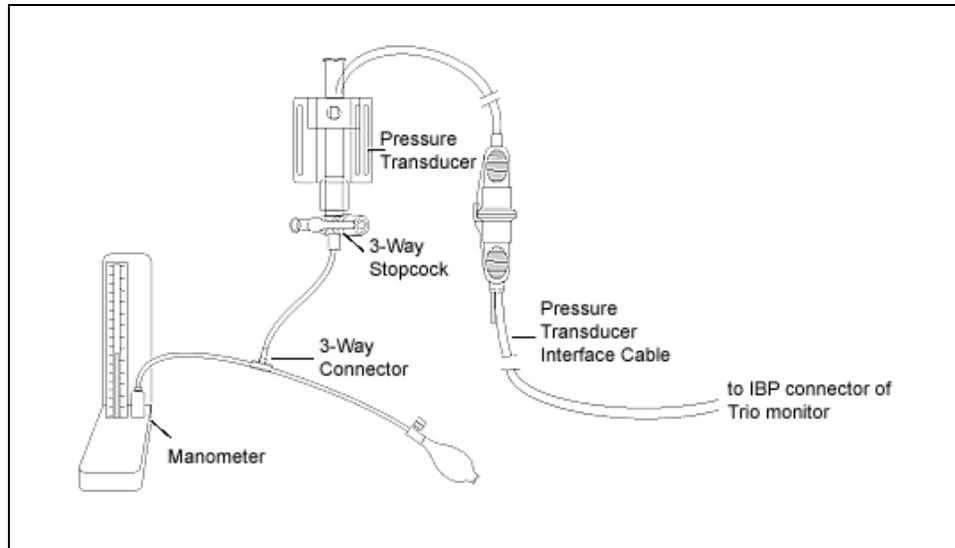

FIGURE 2-3 IBP Calibration
1. Connect a Pressure Transducer Interface Cable from a Pressure Transducer (Figure 2-3) to the IBP socket on the right side panel of the **Trio**